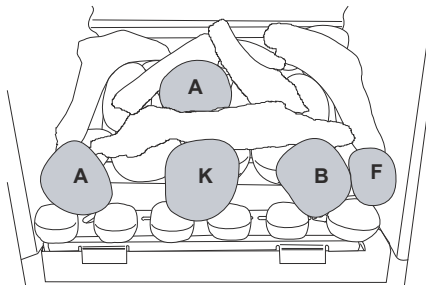
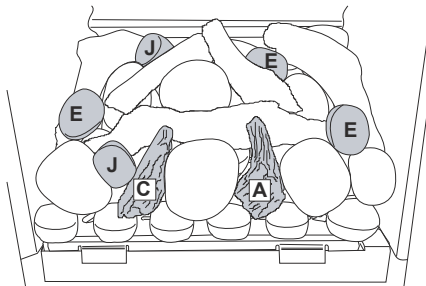

Figure 40
Figure 41
7. Continue laying the pebbles and the driftwood pieces as shown in **Figure 40** and **Figure 41**.